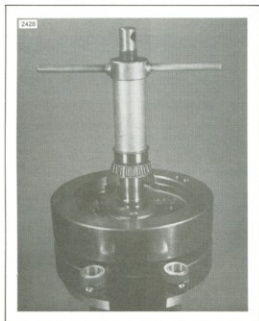

Figure 3-53. Pressing Bearing on Sprocket Shaft
1. Install flywheel side outer race lock ring (12) in case. When properly installed, oil hole in lock ring groove will be centered in lock ring gap. Use arbor press and OUTER RACE PRESS PLUG, Part No. HD-97194-57, to press outer race parts into crankcase bushing one at a time. Press the races into the case, one from each side, with the widest ends outward to match taper of bearings. Be sure each race bottoms on the lock ring.
2. Position flywheel assembly, sprocket shaft up, in flywheel fixture. Press bearing (15) on sprocket shaft using BEARING INSTALLATION TOOL, Part No. HD-97225-55. SPROCKET SHAFT SPACER, Part No. 24036-70, may be needed with BEARING INSTALLATION TOOL as shown in Figure 3-53. Press the parts on using the sprocket shaft spacer as a pressing tool only.
4. Install the bearing inner spacer (10) and tool sleeve and press bearing against flange on flywheel using the tool as shown in Figure 3-53.
6. Remove assembly from fixture and install bearing washer (5), bearings (4) and bearing washer (3) on pinion shaft. Install new spiral lock (2) on groove in pinion shaft. Slip right case half over bearing and against left case half after applying a coat of non-hardening gasket sealer to mating surfaces.